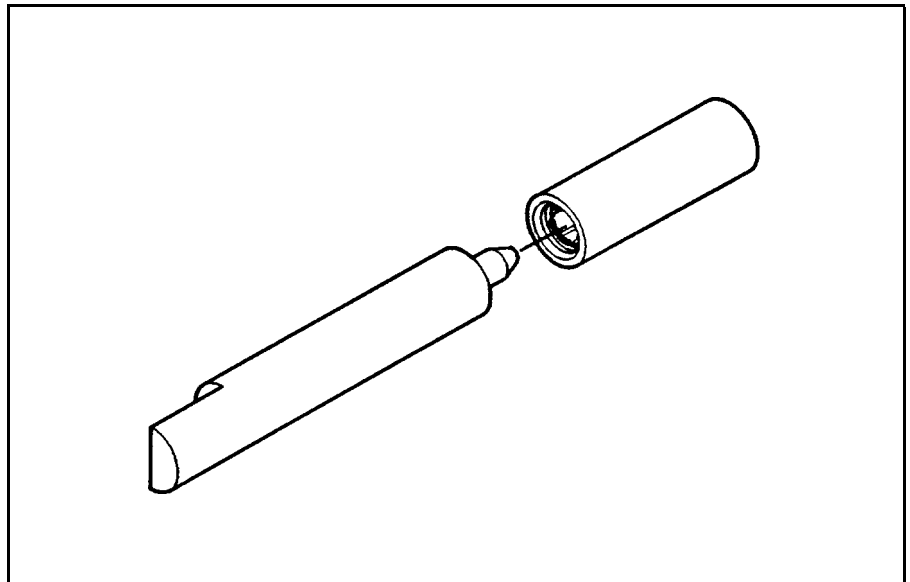

Figure 2-16. Inserting the Testing Tool
2. Under magnification, carefully install the testing tool in the slotless contact assembly (see Figure 2-16).